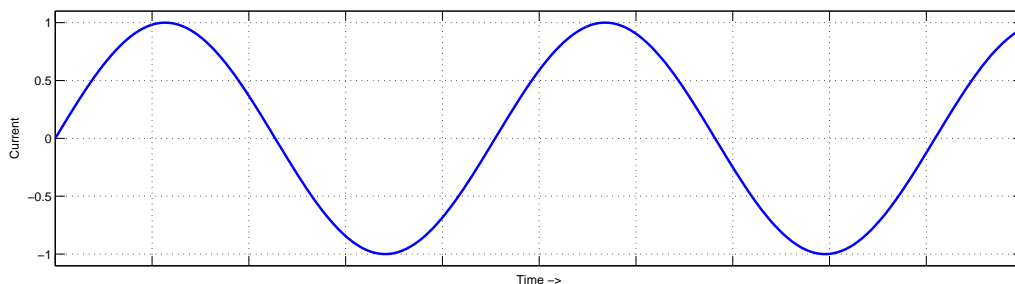

Figure 5: An example of an **AC** signal we might use to drive our speaker
If we pass an **alternating current** (AC), however, then the field will be constantly changing with the current. Recall that like poles of a magnet will repel each other and opposite poles will attract. In the diagram, the north pole of the coil would attract the south pole of the bar magnet. Now imagine we place the bar magnet inside the coil. If we pass an **AC signal** through the coil like the one in Figure 5, then the north and south poles of the coil's field will flip each time the current changes direction (crosses zero).